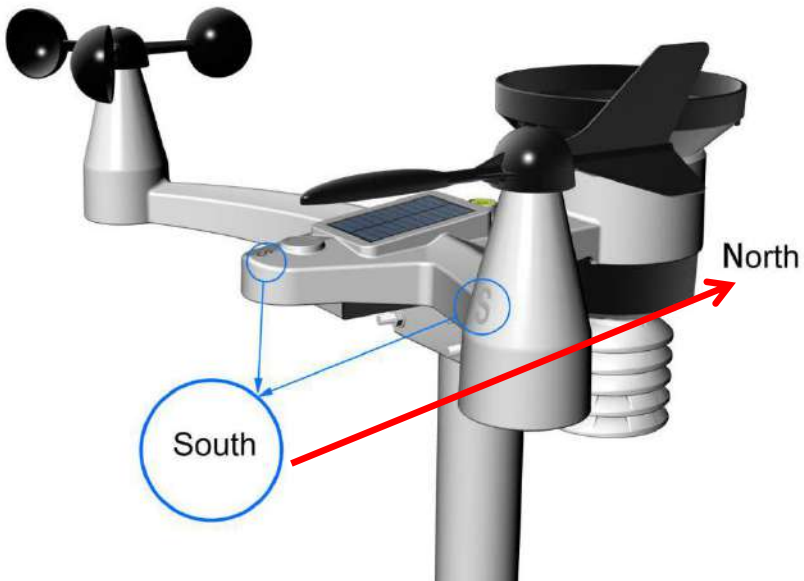

Figure 6
Step 1: There is a “S” indicator on the wind vane that indicates South, as shown in Figure 6. Check the wind directions with compass and Align this “S” marker in the direction of South.